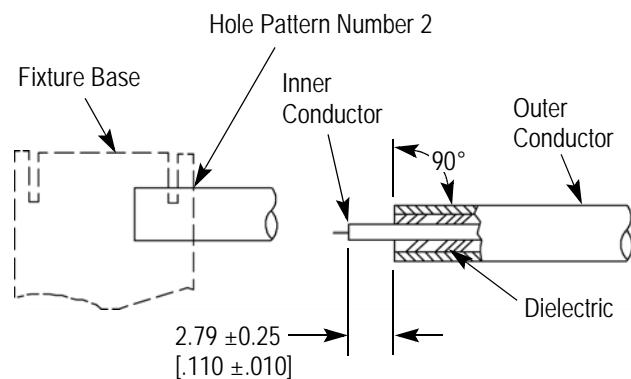

Figure 3
### 2.1. Preparing Cable (Figure 3)
5. Trim the cable inner conductor to the dimension shown in Figure 3.